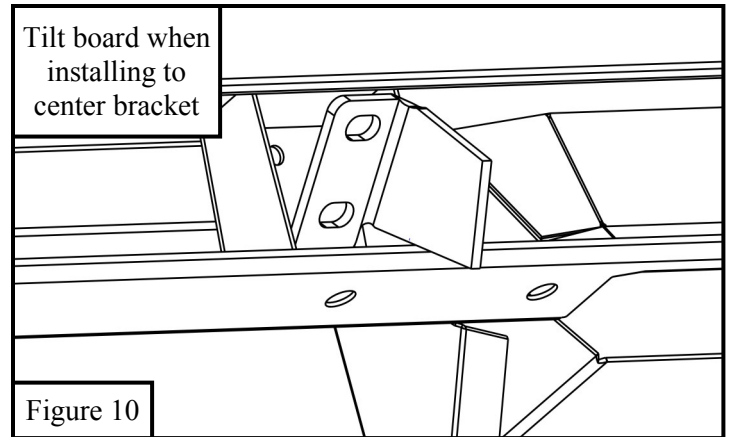

Figure 10
11. Tilt Board at an angle to insert center brackets into board mounting location. See **Figure 10**